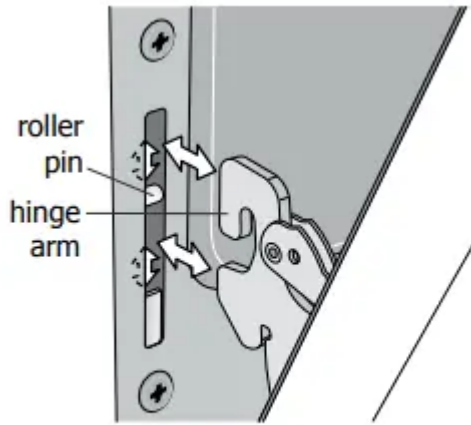

Fig. 4
5. With the oven door in the broil stop position lift the oven door hinge arms over the roller pins located on each side of the oven frame (see fig. 4)